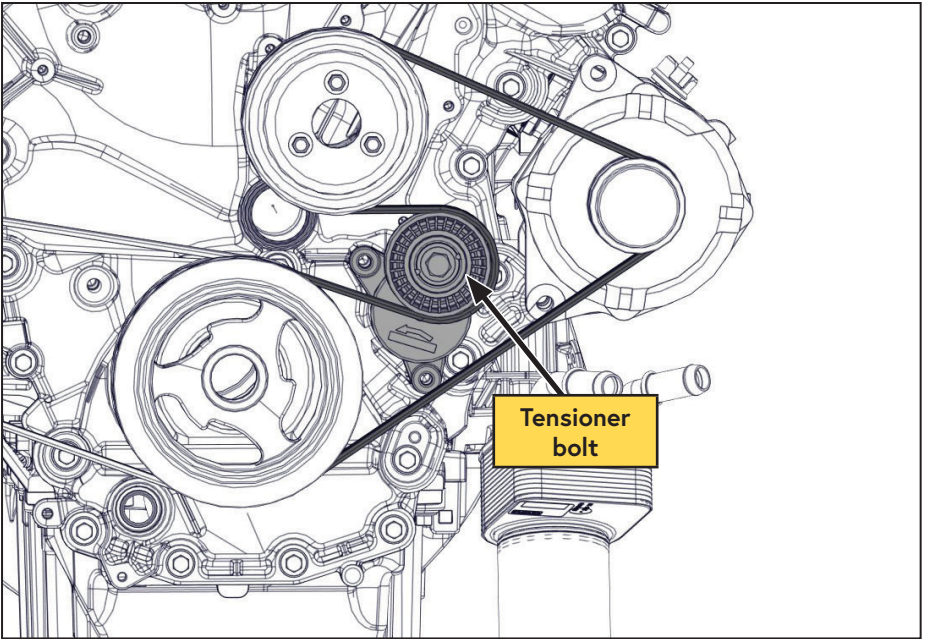

Figure 6 — Remove 6 rib belt
- From underneath the vehicle, use a 15 mm serpentine belt wrench to release the tension and remove the OEM 6 rib belt from the crank pulley. Tuck the belt out the way (Figure 6).